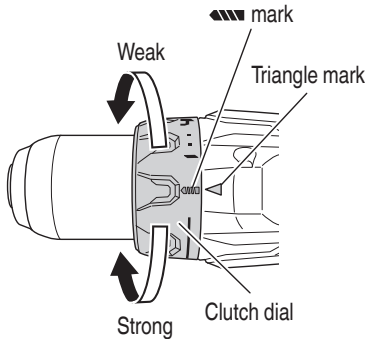

Fig. 11
- Confirm the clutch dial position (See Fig. 11).
(2) Tightening torque indication (See Fig. 11, 13)
(3) Adjusting the tightening torque (See Fig. 11, 13)